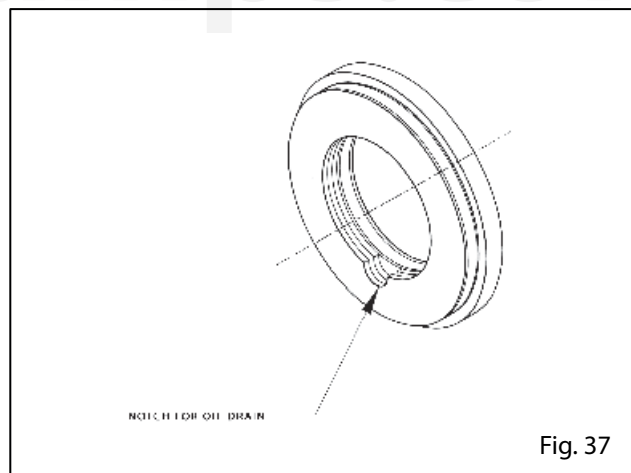

Fig. 37
12.- Install the exterior labyrinth seal in the bearing box, this is with an adjustment gasket type "O" slot oil drain must point downwards (see Figure 37).
25.- Install the labyrinth seal in the bearing box, this is with an adjustment on the gasket type "O", the oil drain slot should face down (see Figure 37).